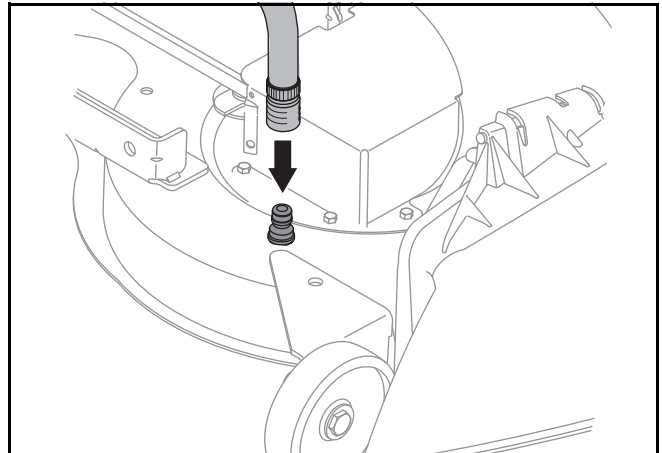

Figure 17
4. Attach the hose coupler to the water port on your decks surface. See Figure 17 .